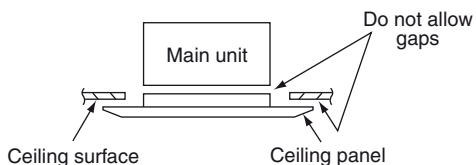

Fig. 7-9
- (4) Check that the panel is attached tightly to the ceiling.
- At this time, make sure that there are no gaps between the unit and the ceiling panel, or between the ceiling panel and the ceiling surface. (Fig. 7-9)